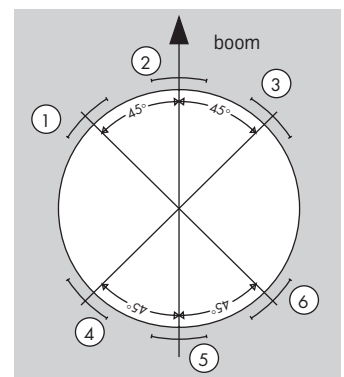

Fig. 8:
- Analogously, collect the grease samples 4, 5 and 6 from the retaining raceway (Fig. 8).